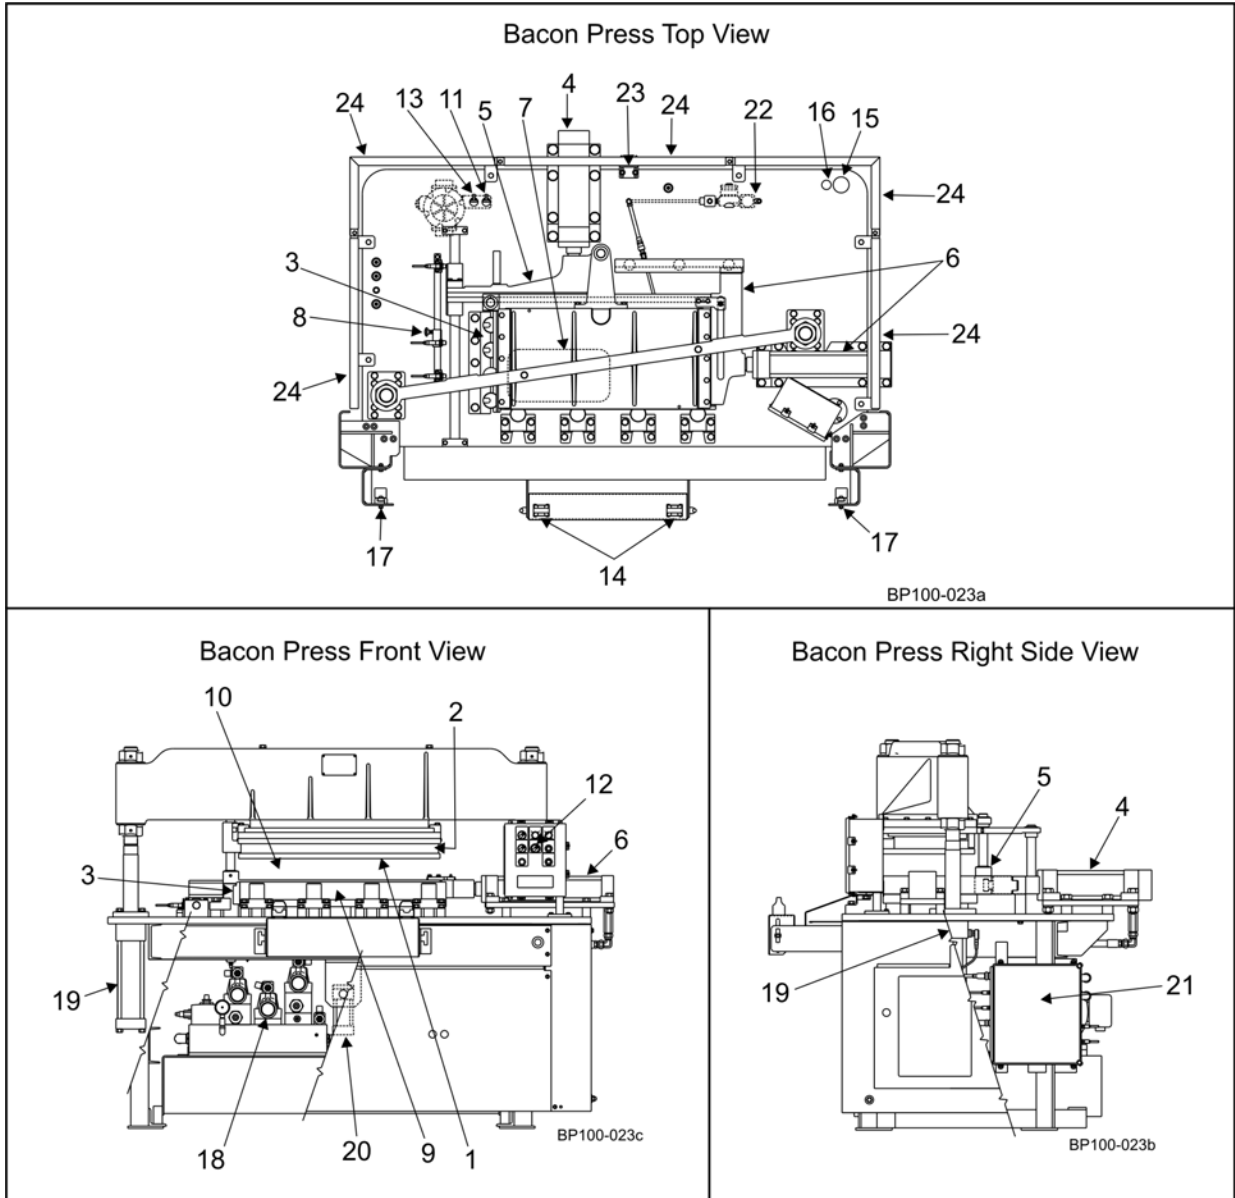

Figure 1 - Bacon Press Major Components
The width control mechanism (Figure 1, item 8), located on left side of press table top, assists operator in determining finished width of pressed belly. Setting is 7 to 14 inches, subject to limitations imposed by varying characteristics of product (such as temperature, type of feed in fattening hog, etc.). Limitations determine the total amount a belly can be compressed without cracking. Field testing on grain-fed bellies at 24°F to 28°F indicates a belly may be compressed approximately 20% smaller than its maximum unpressed width. After natural spring-back, the result is approximately 10% permanent width reduction, squared for slicing.
The 1411P-G3 Press Maximizer assembly (Figure 1, item 7) is located in bottom of die box. Maximizer inflates (SOL-1) to provide a smooth yielding contour for bacon to flow over during pressing operation. At final phase of operation, pressure developed above bacon overcomes pressure in Maximizer diaphragm, allowing bottom of bacon to flatten out and minimize wrinkles in most bellies.
The safety light curtain (Figure 1, item 17) prevents press operation from starting or returns press to open position if operator interrupts safety light curtain before or during press operation. At the beginning of each shift, test and verify safety light curtain. For related information, refer to the manufacturer's user manual provided.
Safety magnetic interlock switch (Figure 1, item 23) is made up of a switch and actuator. Switch is mounted to top of table and actuator is mounted to back guard. All guards on top of table are interconnected to each other with switch actuator mounted onto back guard. Switch and actuator must be in contact for press operation. When guards are open or removed, switch and actuator are interrupted preventing press operation. At the beginning of each shift, test and verify switch is operational, and insure upper interlock guards (Figure 1, item 24) are in place above table top at both sides and at back of press.